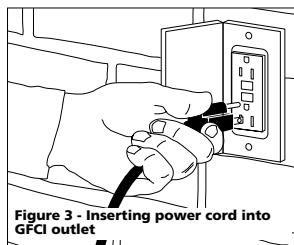

Figure 3 - Inserting power cord into GFCI outlet
- This pump is only for use on 120 volt (single phase), 60 Hz, 15 amp service and is equipped with a 3-conductor cord and 3-prong, grounding type plug. Insert power cord directly into GFCI outlet (see Figure 3).